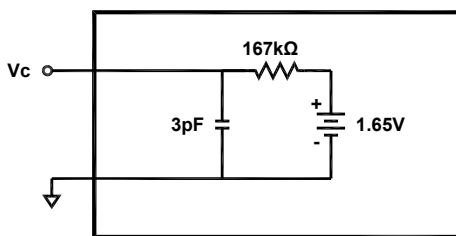

Figure 1. Vc Model – F1 or F2 Enabled
5. The Vc Model is described below (Fig 1).